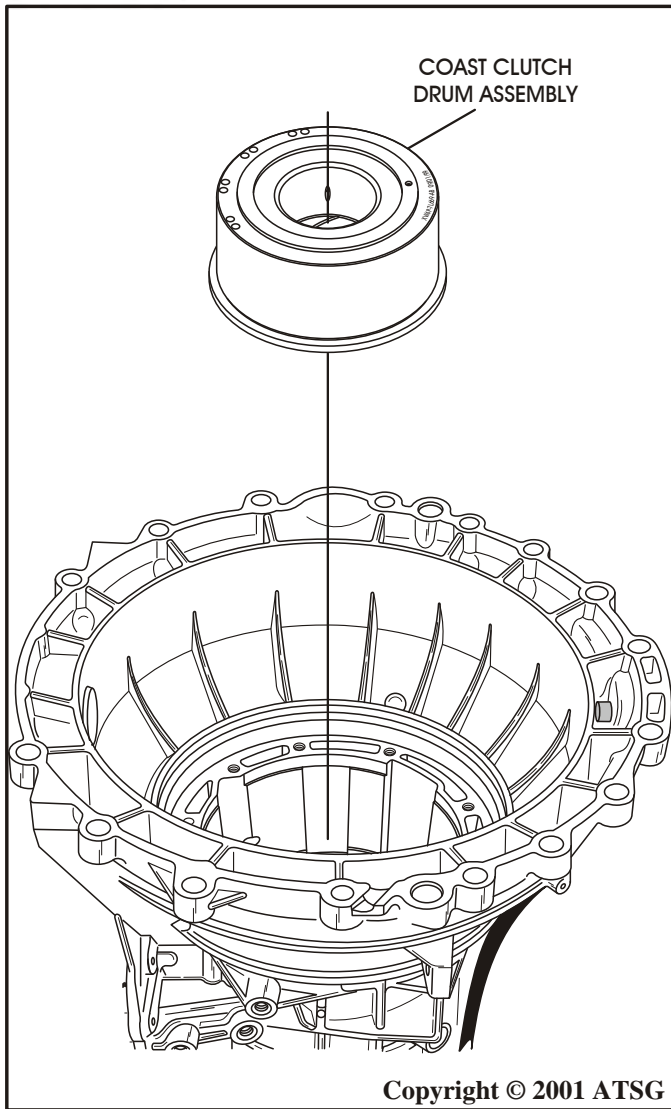

Figure 163
49. Install the pre-assembled coast clutch housing, as shown in Figure 163, by rotating back and forth to engage clutches on hub, until fully seated.